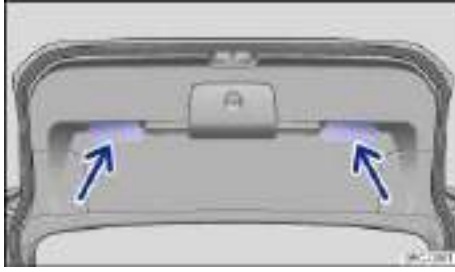

Fig. 30 Opened rear hatch: Recessed grips for closing.
- Grasp one of the recessed grips in the rear hatch trim ⇒ fig. 30 (arrows).